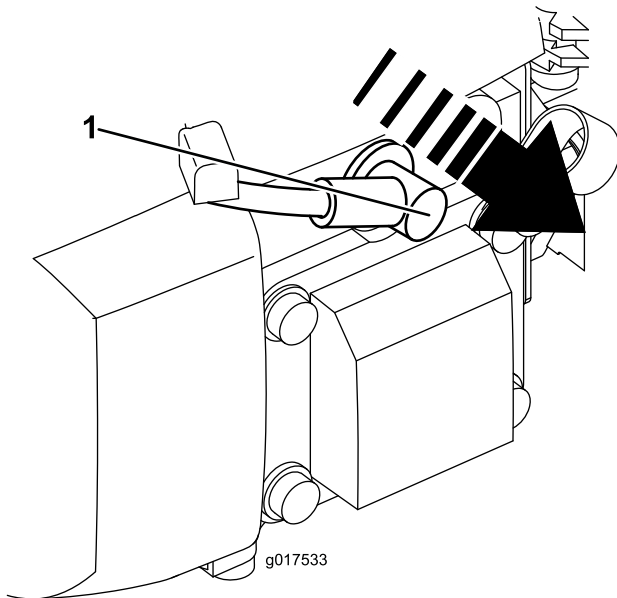

Figure 15
2. Disconnect the spark plug wire from the spark plug (Figure 15) before performing any maintenance procedure.